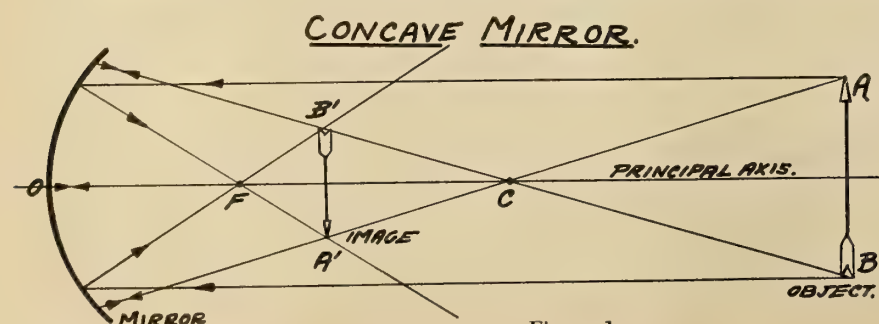

Figure 1
WITH reference to regular reflection, a mirror may be plane or it may be curved. Either of these types reflect light regularly. But, the curved surface can be made to behave just like a lens, and will obey all the laws and formulas to which lenses are subject. In short, a curved mirror obeys the laws of reflection, and still utilizes the formulas of lenses which obey the laws of refraction. Let us consider a simple concave mirror. This mirror has a certain curvature, and depends upon a circle the radius of which describes a certain arc. This radius is known as the radius of curvature, and is the distance from the center of the circle (center of curvature) to the arc which it describes. The principal focus is located exactly half way between the center of curvature and the mirror. In tracing the path of rays from the object to the concave mirror in order to produce the image, the following construction must be followed: (Fig. 1).
4. Draw the same lines for another point like  $B$  on the object, and these lines will intersect at such position, which will indicate the image and its exact size after reflection, as illustrated in Fig. 1.
It will be seen from Fig. 1 that if these lines are carefully traced, obeying the laws of reflection, an image will be produced on the same side of the mirror, which is real, inverted, and diminished in size. Apparently from this, it will be seen that if we move the object  $AB$  nearer the mirror, the path of the rays will be changed, resulting in a displacement both in size and position of the image. The nearer we bring the object to the center of curvature, the more nearly